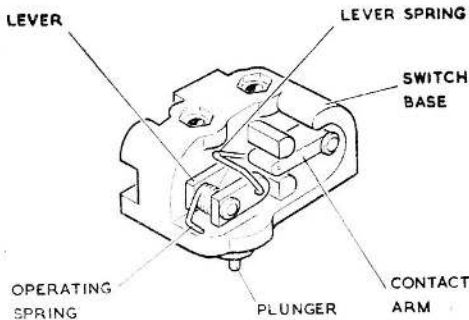

Fig. 1. General view of limit switch
1. Limit switches, Type N99078/2 and /3, are snap action type switches fitted to certain linear actuators to limit the ram travel. Type N99078/2 and /3 supersede the earlier type N90078 (*Ref. No. 5CW/5023*) and N.99078/1 (*Ref. No. 5CW/5024*) respectively; each pair provides for opposite 'handing'. A general view of the switch is given in fig. 1.
3. Two inserts act as fulcrum pins, one for the bakelite lever and return spring, and the other for the movable elkonite contact arm. Two other inserts act as fixed contacts, and are situated at either side of the moving contact arm. A stainless steel spring, located between the bakelite lever and the movable contact arm, actuates the latter as shown in fig. 1.